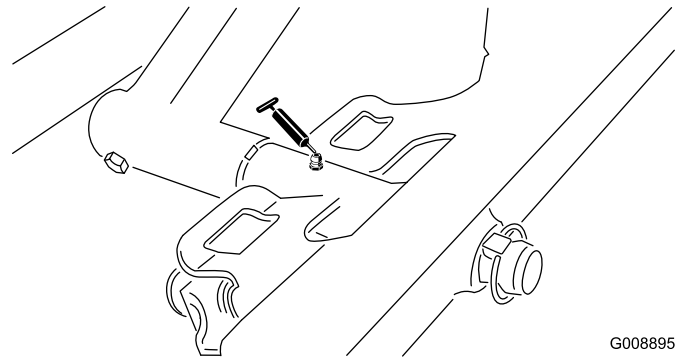

Figure 60
- Front cutting unit pivot (Figure 60)